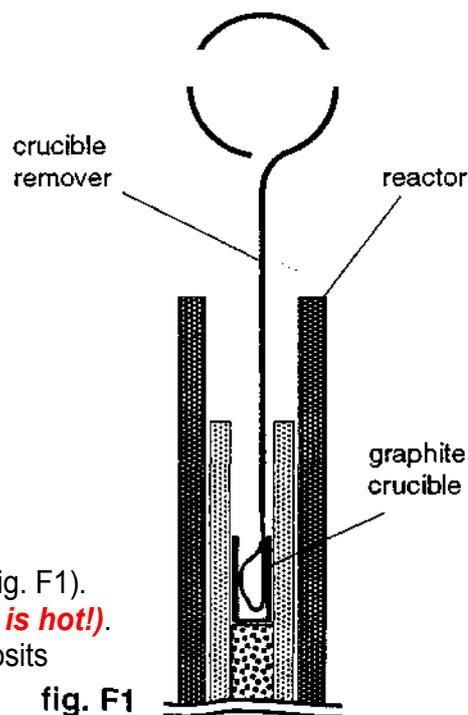

fig. F1
- 7 Insert special tool (crucible remover) inside graphite crucible (fig. F1).